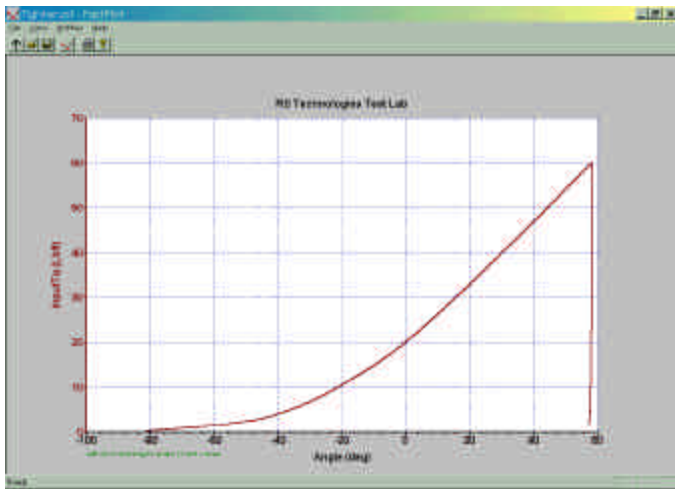

Figure 8. Plotted Data
8. When you have selected the type of graph you want to plot, click on *OK* and FastPlot draws the graph as shown in Figure 8 below.